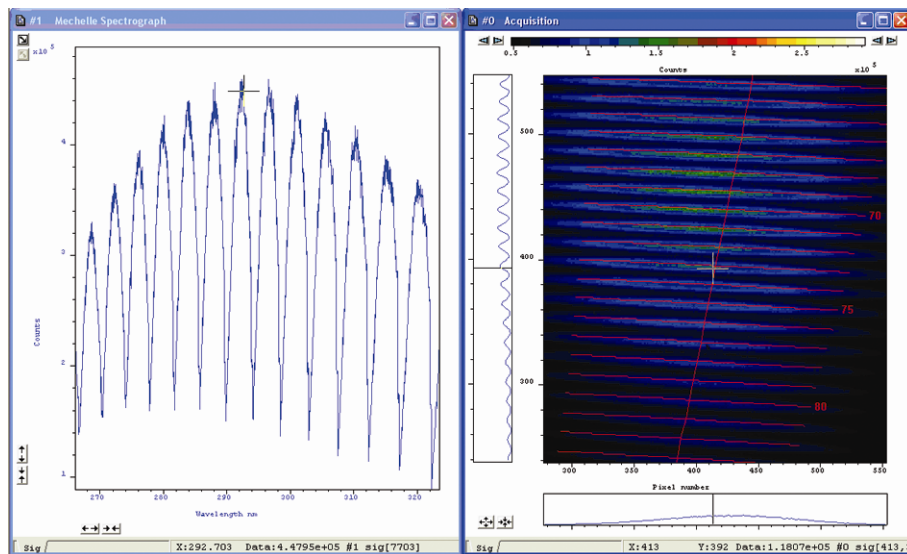

Figure 16: Deuterium CW light source spectrum
The effect of the grating efficiency can be clearly observed when a **Continuous Wave (CW)** light source is used. **Figure 16** below shows a typical spectrum of deuterium CW light source. Echelle grating efficiency can be corrected with the aid of Standard lamps (also known as “black body” lamps) and software logarithm.